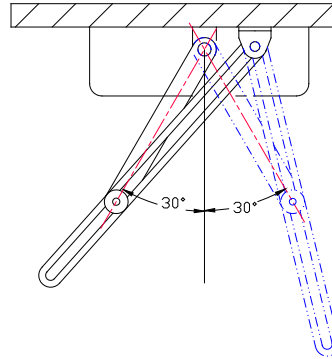
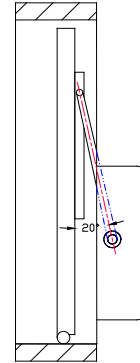
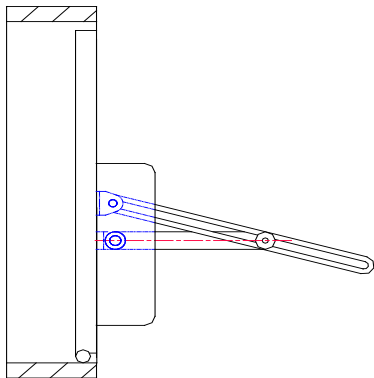
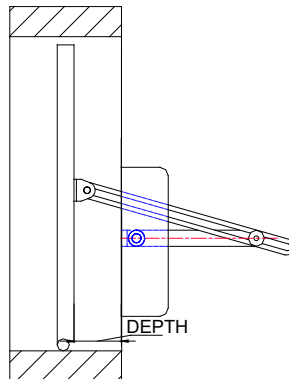

Figure 7
Figure 8
Figure 9
Figure 10
- When the door is fixed at the largest depth of doorframe (see Figure 9, Figure 10, Figure 11), it should be noticed that the angle between door frame and driving arm should be more than 60° (see Figure 7) for articulating arm model, and less than 20° for sliding arm model (see Figure 8).
Note: Figure 10, the door leaf depth shall be less than 80mm for the normal existing linkage arm; Figure 11, the linkage arm shall be specially tailored longer if the door leaf depth is more than 80mm. (please inquire your distributor for the special longer linkage arm)